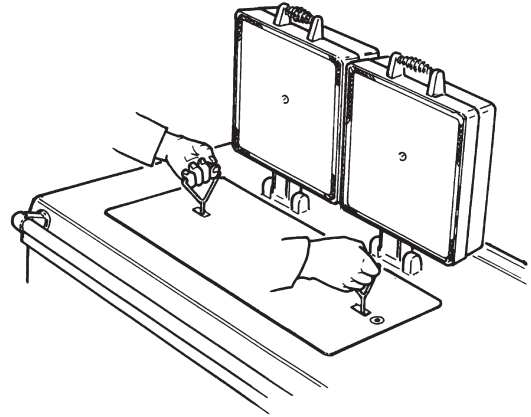

FIG. 7
SEE FIG. 7 & 8
4. Lift up the insulating covers and remove the hotplate using lifting hooks provided (See Fig. 7).